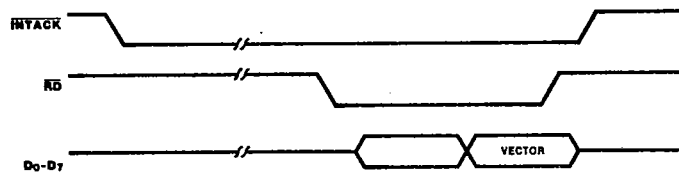

Figure 14. Interrupt Acknowledge Cycle Timing
**Interrupt Acknowledge Cycle Timing.** Figure 14 illustrates Interrupt Acknowledge cycle timing. Between the time  $\overline{INTACK}$  goes Low and the falling edge of  $\overline{RD}$ , the internal and external IEI/IEO daisy chains settle. If there is an interrupt pending in the SCC and IEI is